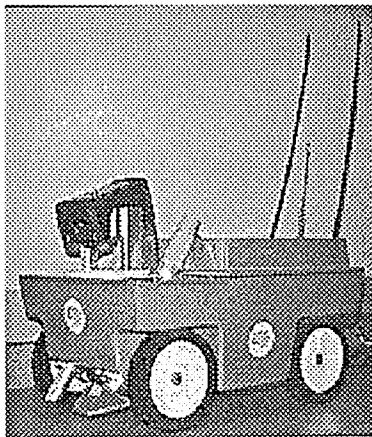

Fig. 2.1 A sample-retrieval vehicle
2.1 General Description. The AHSR system is an ensemble of equipment whose purpose is not only to obtain samples of hazardous spills by remote control, but to provide support to the sample-retrieval vehicle and to produce hardcopy of the vehicle mission. A photograph of the vehicle is shown in Fig. 2.1